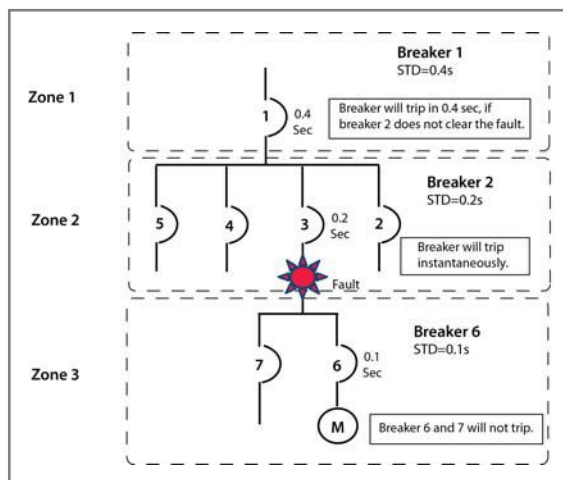

Figure 1: Low-Voltage Circuit Breaker Protective Scheme
1. Identify the low-voltage protection scheme shown in Figure 1:
3. In the protection scheme shown in Figure 1, label the action taken by each circuit breaker. Possible actions are trip and restrain.